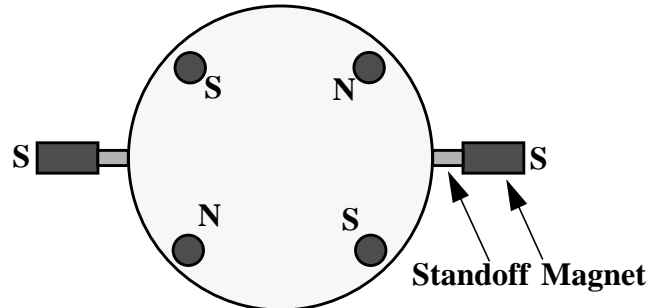

Figure 1: Polarities of the magnet/standoff assemblies.
8. Prepare the plungers: Lay out a clean piece of UHV foil in a convenient position near the oven. Lay out the plungers on the foil in an arrangement similar to the magnet positions in Figure 1. The magnets are placed